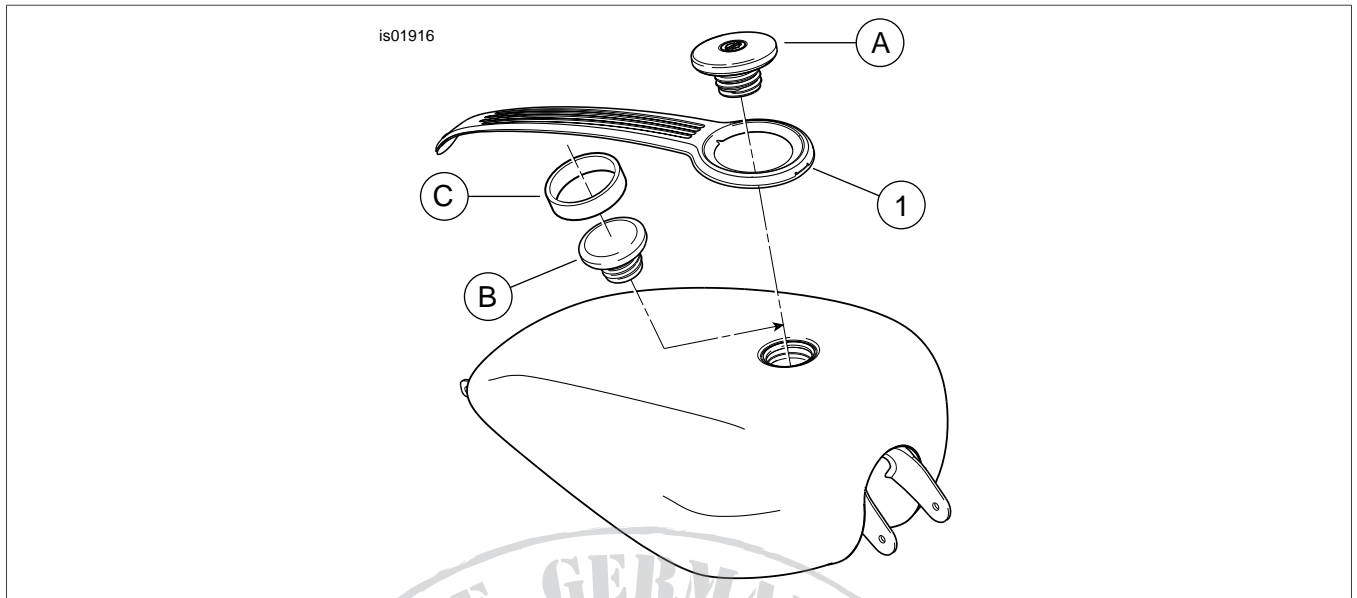

Figure 5. Service Parts: Chrome Fuel Tank Trim Panel (Console)
See Figure 5 and Table 1.
2. See the Figure 5. Remove the original fuel filler cap (A) from the tank and set it aside. Obtain a small diameter Harley-Davidson fuel filler cap (B) and screw it into the fuel filler opening.